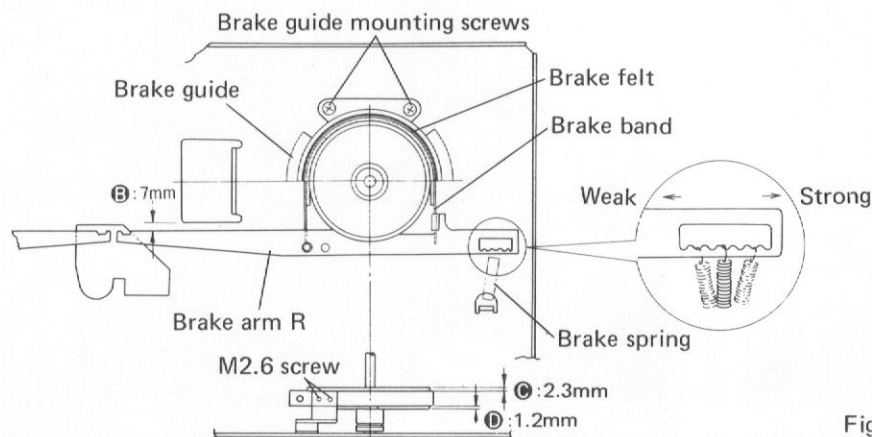

Fig. 24
1. Are dimensions ① and ② shown in Fig. 24 as specified when the brake is applied (solenoid attracted)? When outside the specified dimensions, loosen and readjust the M2.6 screw.
2. Is the brake guide mounted so that the brake drum and brake felt are uniformly separated when the brake is released (when the shaft of the solenoid is pushed by hand) after the check of item 1 above?
2. Hook a tension gauge to the end of the string and pull in direction B (C) and read the value indicated at the tension gauge when the reel base begins to turn.
3. Adjust the hooking position of the brake spring shown in Fig. 24 so that this value becomes 300 ~ 400g (torque = 900g.cm ~ 1200g.cm).
5. Confirm that the following relation is established between the above measured value and the value measured when the tension gauge is pulled in direction (A) D.